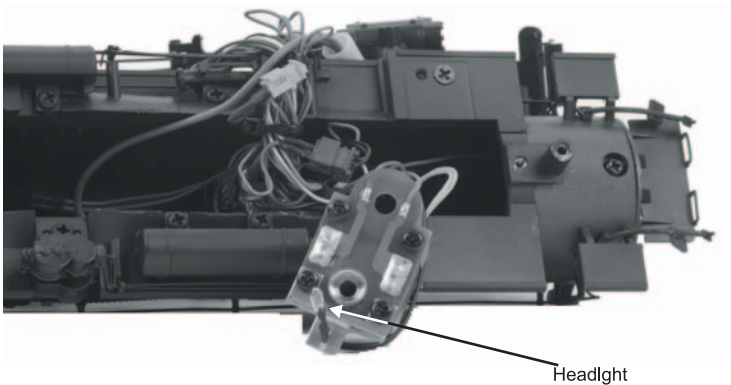

Figure 11
3. Gently pull the bulb from the headlight shell and separate the blue connector inside the smokebox area. (Fig 11)